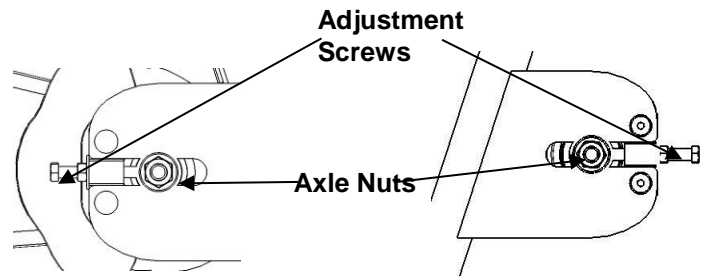

Figure 2A. PRO+
4. To tighten the chain, turn the adjustment screw in a clockwise rotation equally on both sides using the 10mm open end wrench. (Figure 2A & 2B).
6. While adjusting the chain tension, work on both sides of the flywheel. Adjust the angle of the flywheel so it is straight front to rear and evenly spaced within the frame side to side. (Figure 2A & 2B).